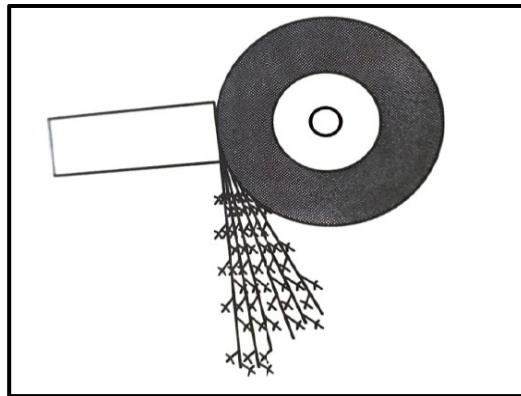

FIGURE 1.5
- D All the above-mentioned (1)
- 1.5 FIGURE 1.5 shows a spark test conducted on a material. Identify the material used during the spark test.